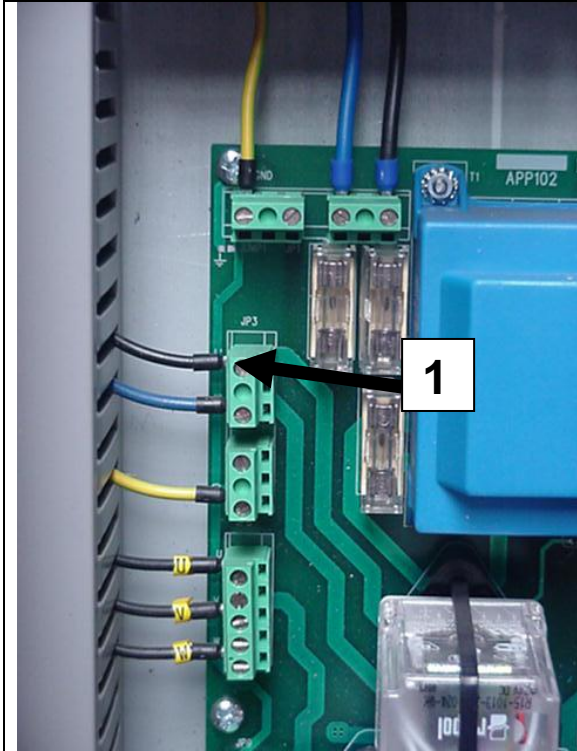

Figure 1
2. Unscrew the wire showed in figures 1 and 2